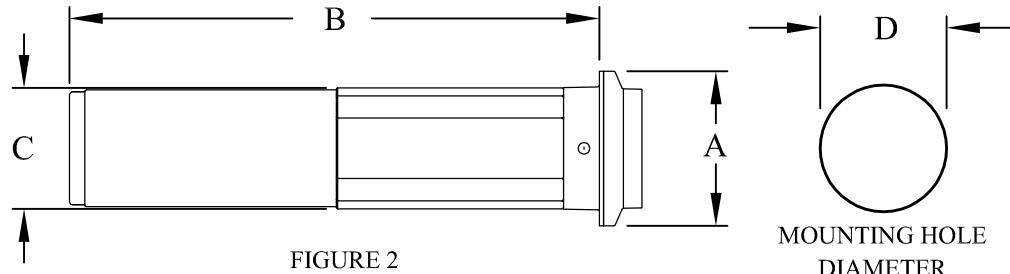

FIGURE 2
- 1.) Lay out and cut mounting hole for dispenser (See Figure 2).